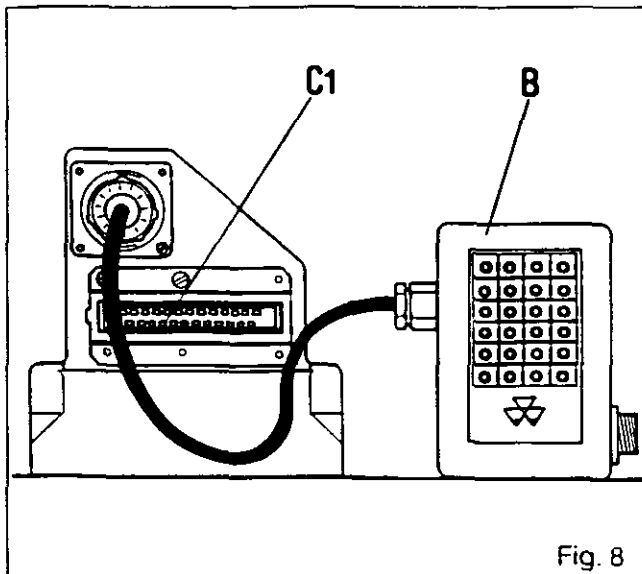

Fig. 8
Measure resistance between tester (B) and calculator connector (C1) (see Fig. 8).